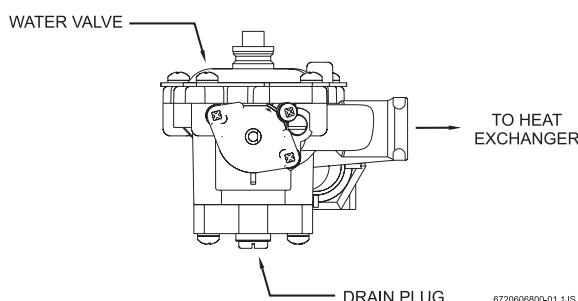

Fig. 1 - Water heater drain plug
**!** **WARNING: DO NOT INSTALL IN AN AREA WHERE IT COULD FREEZE.** This heater is neither designed for nor approved for outside installation. Drain the heater entirely if freezing temperatures are anticipated in area where heater is installed by disconnecting both the inlet and outlet water connections from the heater (disconnect the outlet flex line from where it connects to the copper heat exchanger). Additionally, remove the drain plug under the water valve. See Fig 1.